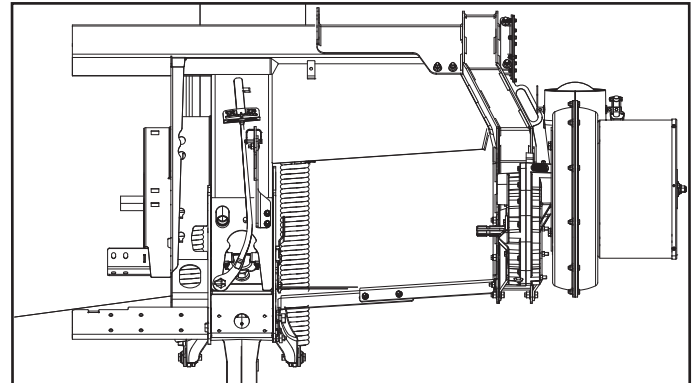
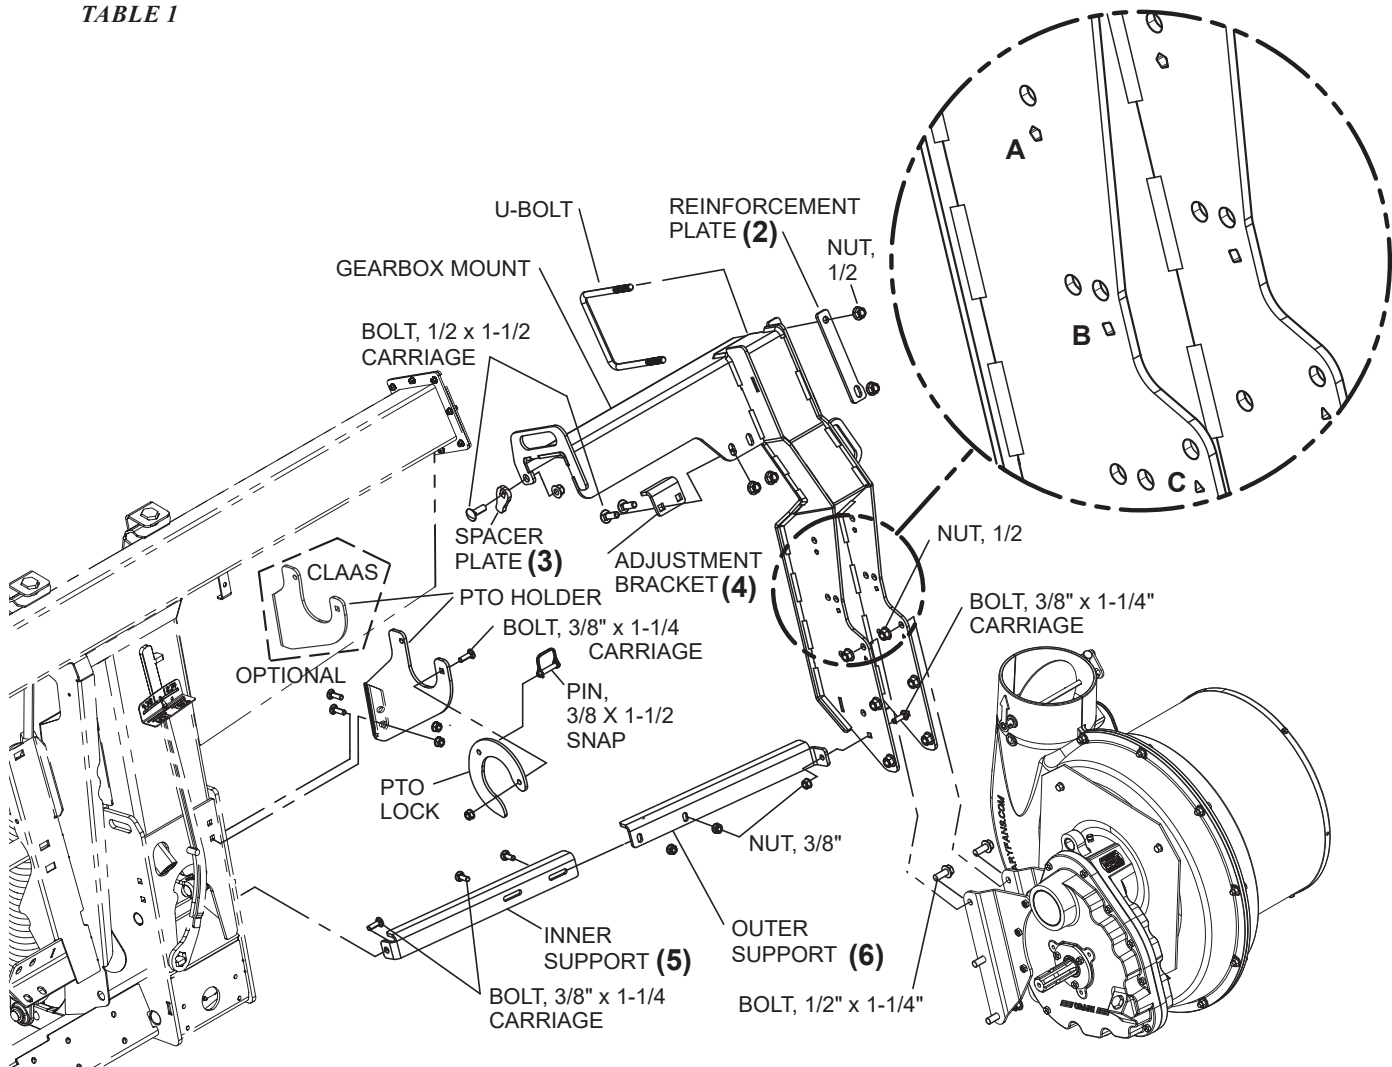

Figure 1: Gearbox mount location
Figure 3: Right hand gearbox/fan mount
1. Place the gearbox mount **(1)** on the center adapter as shown in Figure 1. Secure using the U-bolt, reinforcement plate **(2)**, plate spacer **(3)**, 1/2" x 1-1/2" carriage bolt and nuts (Figure 3). Tighten all hardware.
4. Install the inner **(5)** and outer **(6)** supports to the gearbox mount using four 3/8" x 1-1/4" carriage bolts and nuts as shown in Figure 3. Tighten all hardware.
5. This is a universal gearbox mount bracket. Refer to Figure 3 and table for correct combine mounting location.
7. Attach the PTO holder **(7)** to the header using two 3/8" x 1-1/4" bolts and nuts (Figure 3). On CLAAS combines, use alternate optional mount to allow clearance for driveline. Contact your dealer, if required.